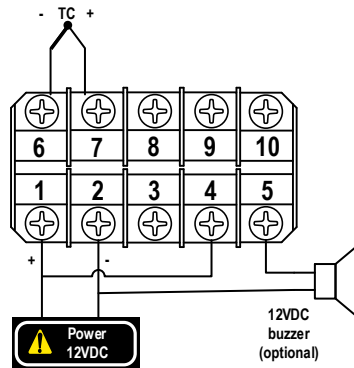

Figure 6. Wire the SYL-1813 with an EGT probe and an alarm buzzer.
Auber's EGT probes are type K thermocouples. To read an Auber's EGT probe, set the sensor type *Inty* to "k" (P). The gauge is preset for the EGT application. Wire the gauge as the diagram below (Figure 6) and it is ready to go.